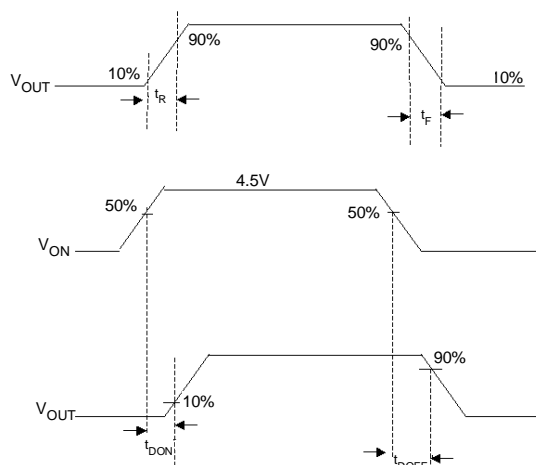

Figure 32. Timing Diagram
- $t_{DON}/t_{DOFF}/t_R/t_F$ are defined in Figure 32.